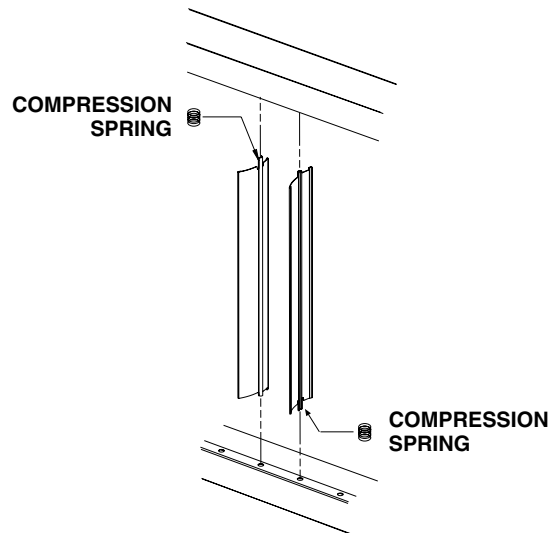

Figure 2. Louver Installation
- b. With wider louver blade facing in toward heat exchanger, push tab with compression spring into hole in top or bottom louver frame (see Figure 2)—spring compresses. Insert tab on other end of louver into opposite louver frame. For left airflow, compress spring into top louver frame. For right airflow, compress spring into bottom louver frame.